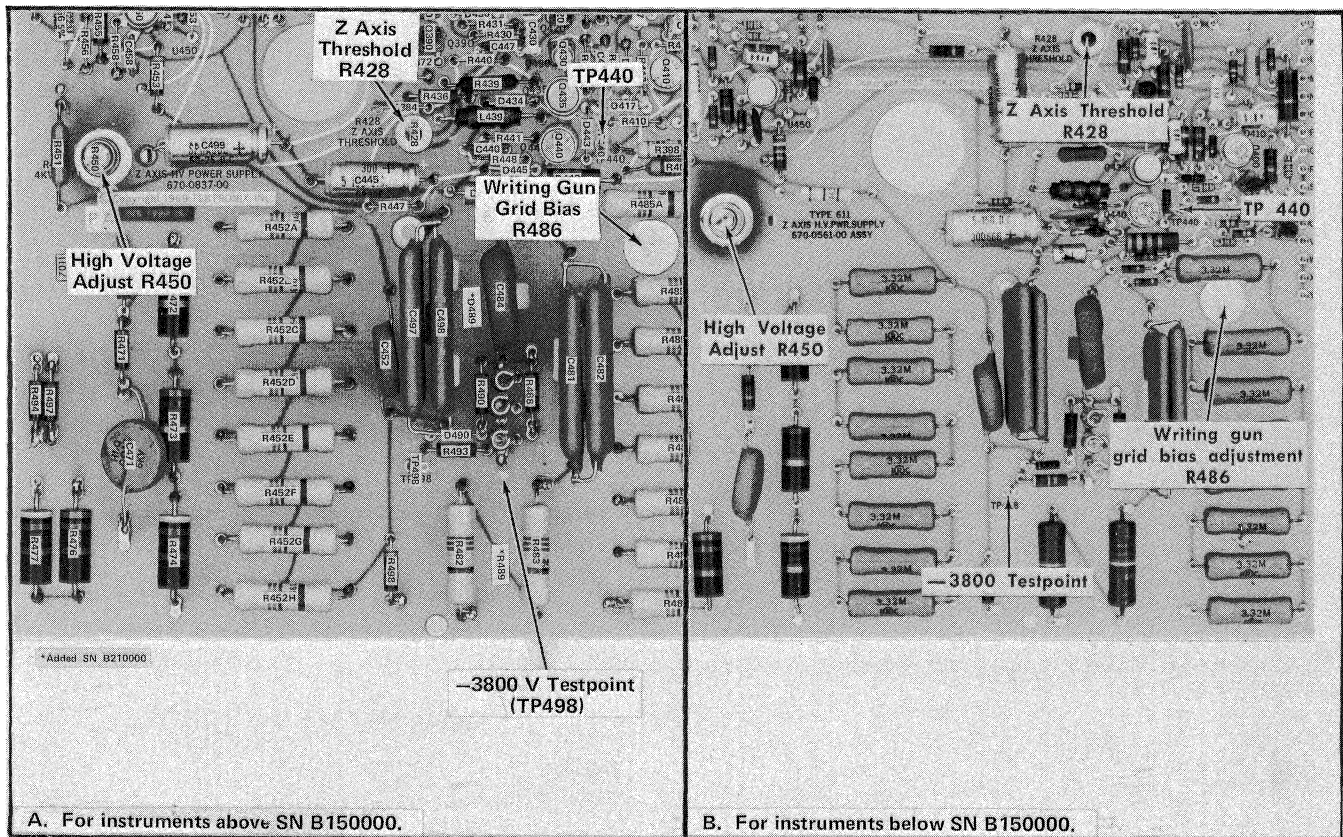

Fig. 5-3. Locations of adjustments and test points on the Z Axis and H. V. Power Supply board for steps 3, 4, 6, 8 and 9.
3. Check or Adjust High Voltage Supply (R450) ❶
a. Connect the precision DC voltmeter (use the precision 5 kV divider) between the -3800 V test point (Fig. 5-3) and chassis ground.
c. ADJUST—High Voltage control R450 (Fig. 5-3) for a meter reading of -3800 volts $\pm 2\%$.
d. Connect a 10X probe from the oscilloscope Channel 1 input to TP440 on the Z Axis and H.V. Power Supply board (Fig. 5-3).
e. Observe the Z Axis Amplifier output displayed on the test oscilloscope CRT while rotating the Z Axis Threshold control, R428 (Fig. 5-3), through its range. Note the R428 setting where the positive-going rectangular waveform (Fig.
8. Check or Adjust Writing Gun Grid Bias (R486) ①
d. ADJUST—R486 (Fig. 5-3) to a setting that will cause the writing beam spot to disappear. This will ensure that the beam can be turned off with the INTENSITY control. To check that R486 is set correctly, turn the INTENSITY control about 1-2/3 divisions (about 50°) clockwise. The spot should be visible.